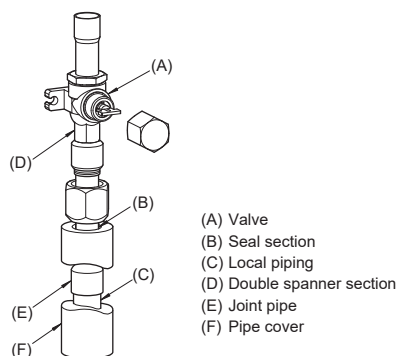

Fig. 4-3
- (3) Use the following procedure for connecting the gas-side piping. (Fig. 4-3)
- 1 Braze the (E) Joint pipe provided to the outdoor unit using locally procured brazing materials and (C) Local piping without oxygen.
- 2 Connect the (E) Joint pipe to the gas-side valve.